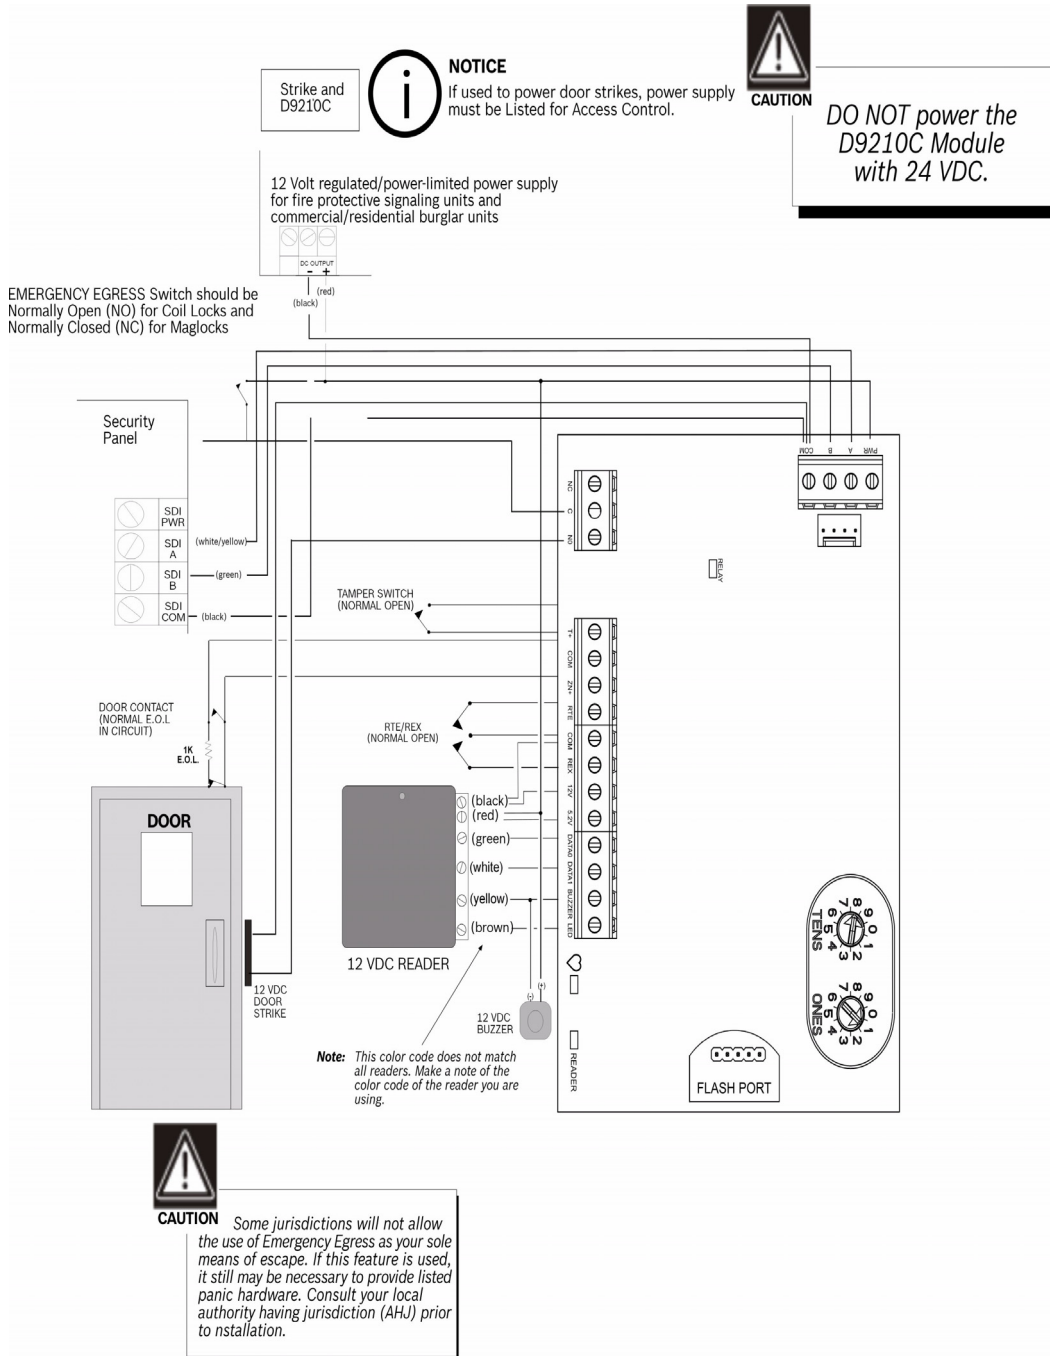

Figure 3.1 Wiring Diagram for Typical D9210C installation
- Tag your wire runs to prevent confusion during installation and troubleshooting. Section *Figure 3.1 Wiring Diagram for Typical D9210C installation* shows the wiring for a typical interface module installation.
A Request to Exit Device (REX) must not be used for emergency exit applications. NFPA 101 requires that a UL listed panic device be used to provide direct power from the standby power source. Refer to *Section Figure 3.1 Wiring Diagram for Typical D9210C installation, page 15* for wiring an emergency exit device. Check with your local Authority Having Jurisdiction (AHJ) prior to installing your system.